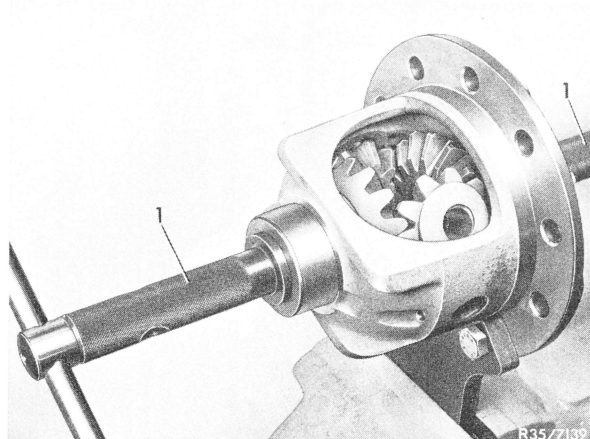

Fig. 4
- 8 Insert both assembly mandrels into side gears and mount both differential pinions together with spherical washers (Fig. 4).